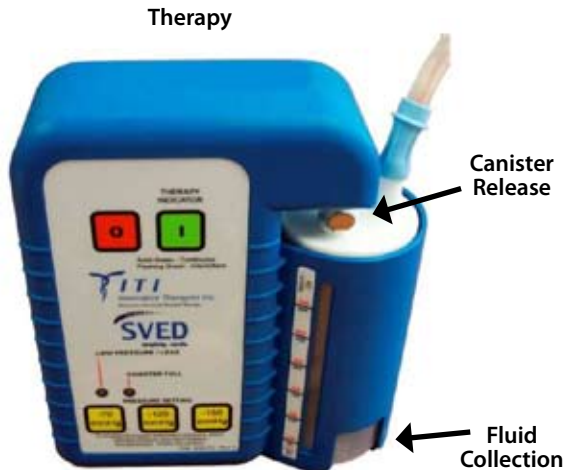

Figure 5
1. Ensure that an ITI Fluid Collection Canister is properly inserted in the receptacle located on the side of the therapy unit (see Figure 5). The Canister should “snap” into place and lock. The canister release button may need to be depressed to permit canister insertion. **NOTE: Always use a new canister with a new patient.**